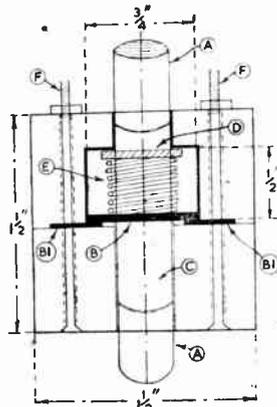

Fig. 1 - Lettered diagram section
The diagrammatic sketch shown in Fig. 1 gives the reader a complete picture of the assembled parts, consisting of a piece of $\frac{3}{8}$ in. tube $\frac{1}{2}$ in. in length (C). Plugs (A) made from dowelling of the same thickness as the tube, are necessary to eliminate the possibility of an electrical shock which would occur if the metal tube was extended to protrude at either end.